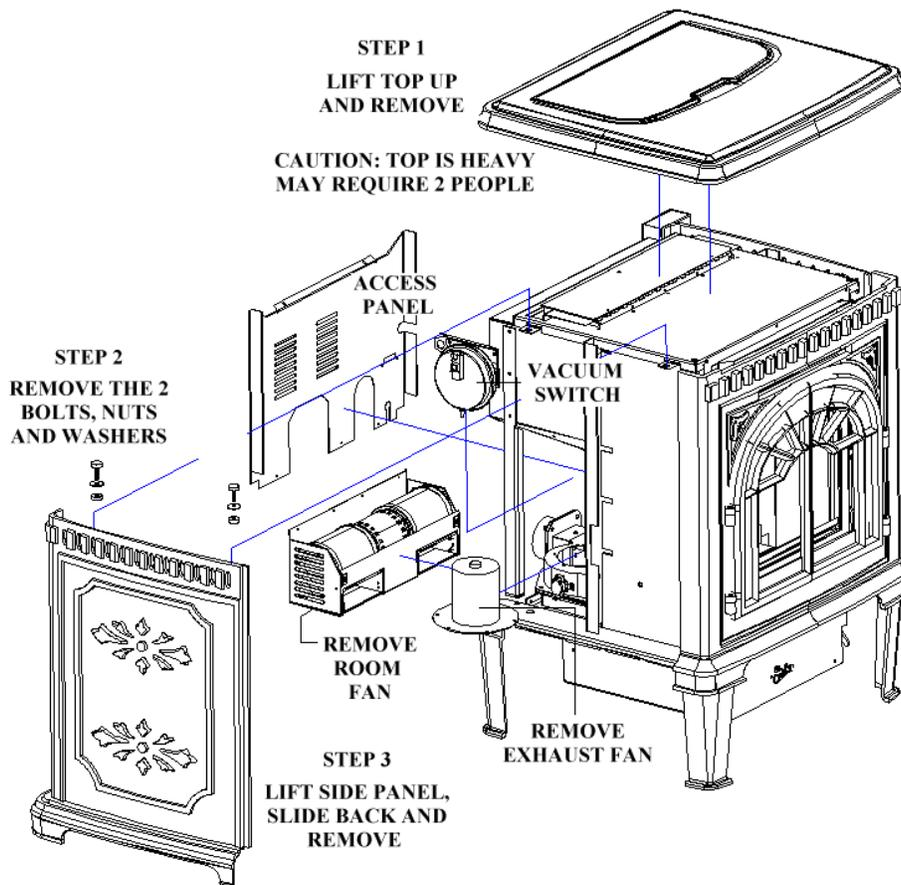

Figure 8
4. The exhaust fan should be removed and cleaned annually. Call dealer for this service. Annual oiling of the motors is not needed. (See fig. 8)